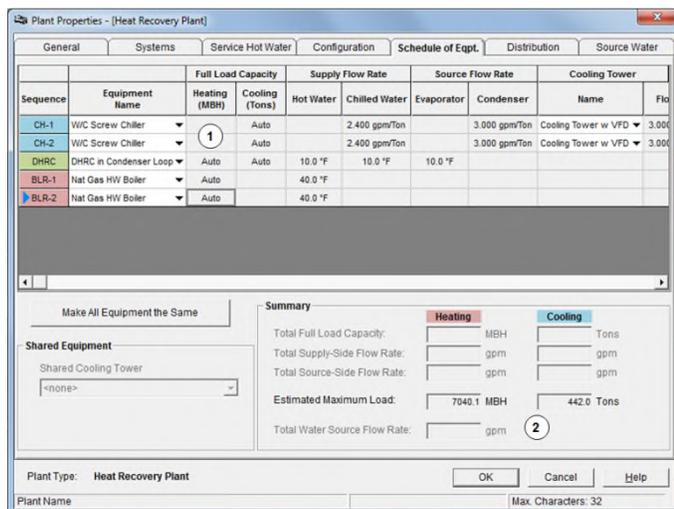

Figure 11.
The Schedule of Equipment Tab (Figure 11) is used to select the chillers, boilers and the DHRC machine used in the plant:
- The **Equipment Table** (see 1 in figure) contains one row for each chiller or boiler in the plant, and one additional row for the DHRC. In the example in Figure 11 there are two chillers, color coded as blue and designated as CH-1 and CH-2. There are also two boilers, color coded as red, and designated as BLR-1 and BLR-2. There is one DHRC machine, color coded green and designated as “DHRC”. If you’ve previously defined the chiller, DHRC, and boiler equipment (in Step 3 above), these items will appear on the drop-down list and can be selected. If the equipment has not yet been defined, you can select the “create new chiller”, “create new heat pump”, or “create new boiler” option in the list to create and link the equipment.
- The remaining items on this tab (2) are display only and provide reference information about equipment flow rates and capacities (if available).